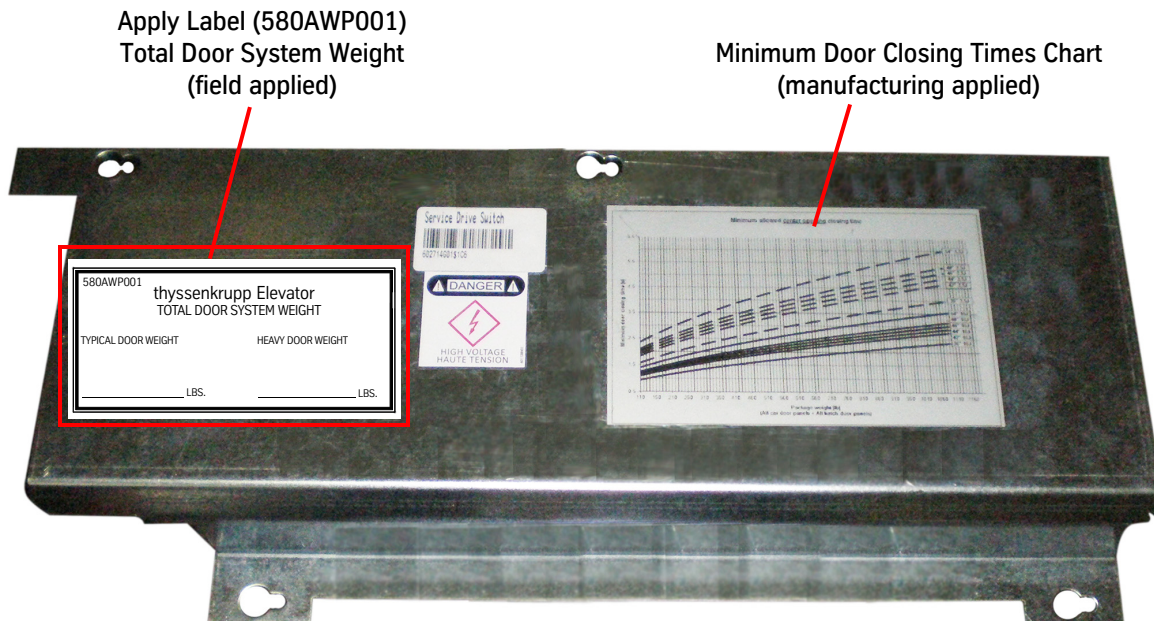

Figure 64 - Door System Labels
3. Install the **Total Door System Weight (580AWP001)** label next to the Minimum Door Closing Times Chart. See Figure 64.